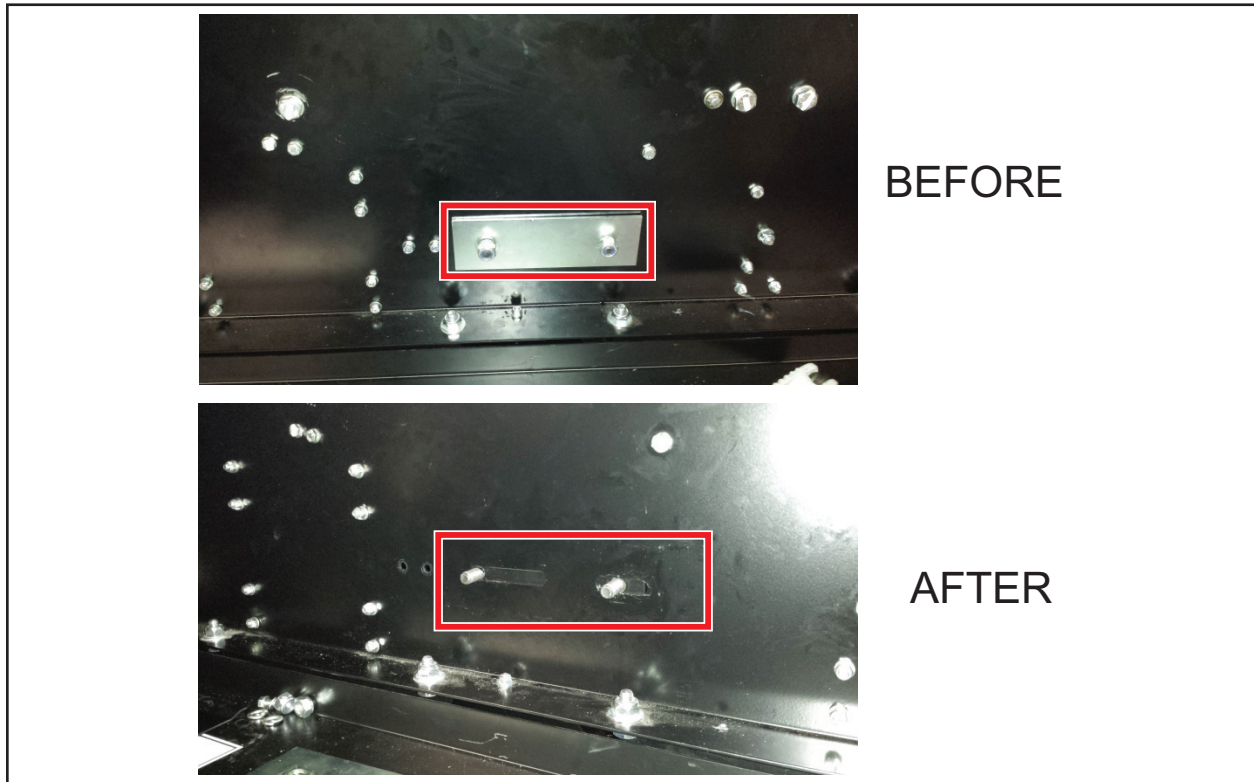

Figure 4
- Reinstall the sprocket mounting plate and 17mm nuts removing in step 6. Do not tighten the 17mm nuts. Refer to *Figure 4*.
28. Tighten the 17mm nuts to secure the sprocket/guard assemblies. Refer to *Figure 4*.